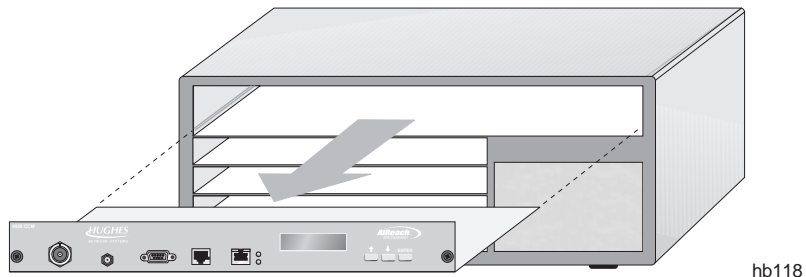

Figure 10-6 Removing the CCM
4. Using an ESD wrist strap connected to a chassis ground terminal, slide the CCM out of its slot, as shown in figure 10-6.